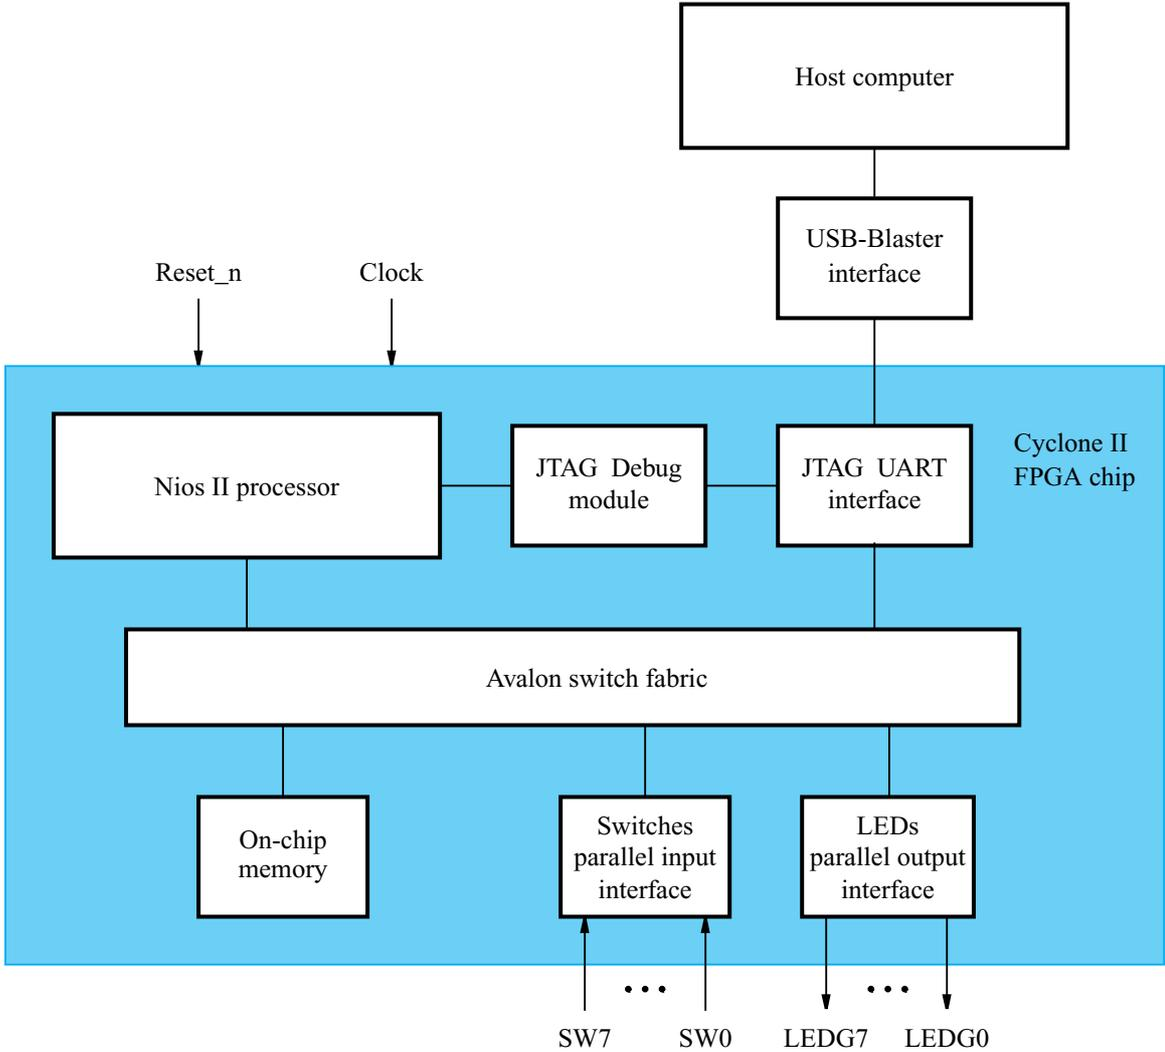
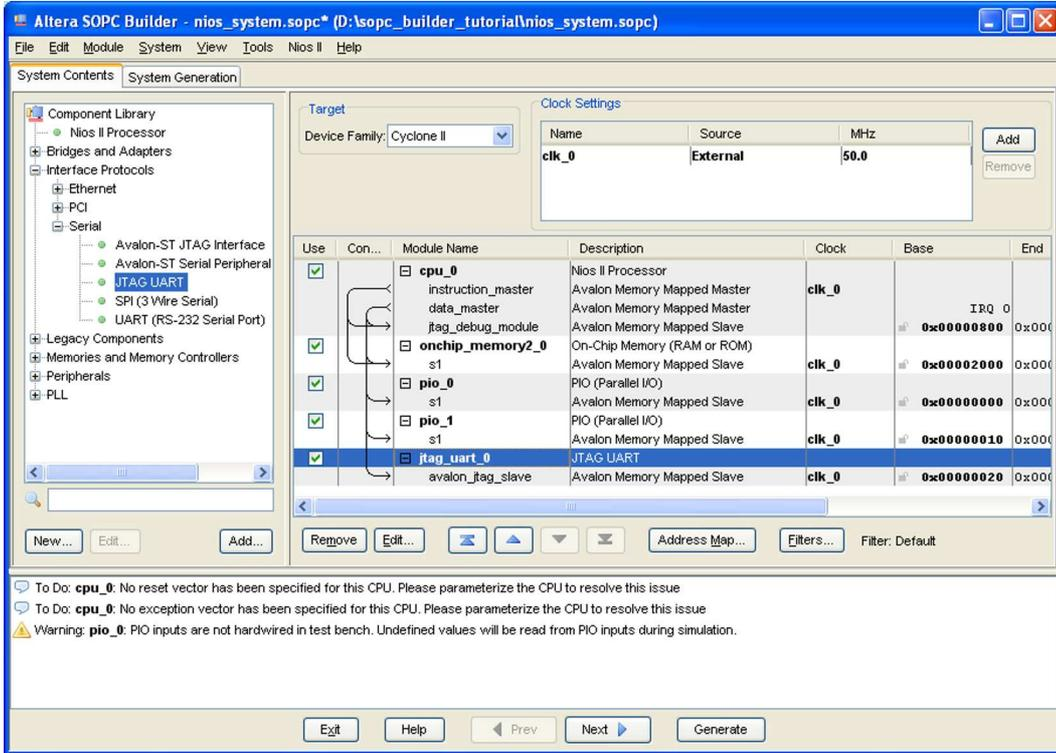

Figure 2. A simple example of a Nios II system.
Figure 13. The complete system.
Our example system is given in Figure 2. The system realizes a trivial task. Eight toggle switches on the DE2 board, *SW7 – 0*, are used to turn on or off the eight green LEDs, *LEDG7 – 0*. The switches are connected to the Nios II system by means of a parallel I/O interface configured to act as an input port. The LEDs are driven by the signals from another parallel I/O interface configured to act as an output port. To achieve the desired operation, the eight-bit pattern corresponding to the state of the switches has to be sent to the output port to activate the LEDs. This will be done by having the Nios II processor execute a program stored in the on-chip memory. Continuous operation is required, such that as the switches are toggled the lights change accordingly.
We will use the SOPC Builder to design the hardware depicted in Figure 2. Next, we will assign the Cyclone II pins to realize the connections between the parallel interfaces and the switches and LEDs which act as I/O devices. Then, we will configure the FPGA to implement the designed system. Finally, we will use the software tool called the *Nios II Monitor Program* to assemble, download and execute a Nios II program that performs the desired task.
The SOPC Builder is a tool used in conjunction with the Quartus II CAD software. It allows the user to easily create a system based on the Nios II processor, by simply selecting the desired functional units and specifying their parameters. To implement the system in Figure 2, we have to instantiate the following functional units:
10. The complete system is depicted in Figure 13. Note that the SOPC Builder automatically chooses names for the various components. The names are not necessarily descriptive enough to be easily associated with the target design, but they can be changed. In Figure 2, we use the names **Switches** and **LEDs** for the parallel input and output interfaces, respectively. These names can be used in the implemented system. Right-click on the **pio\_0** name and then select **Rename**. Change the name to **Switches**. Similarly, change **pio\_1** to **LEDs**.